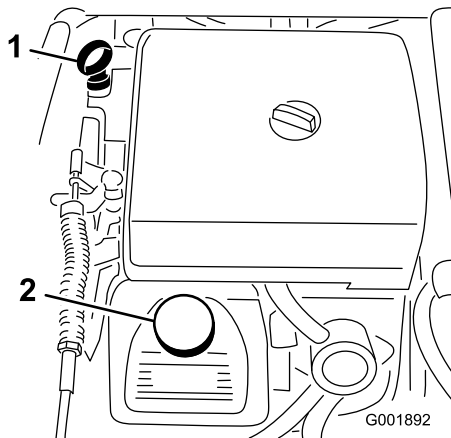

Figure 21
2. Remove the dipstick and wipe it with a clean rag (Figure 21). Insert the dipstick into the tube and make sure it is seated fully. Remove the dipstick and check the oil level.
3. If the oil level is low, remove the filler cap from the valve cover (Figure 21) and pour oil into the opening until the oil level is up to the Full mark on the dipstick; refer to Servicing Engine Oil, Engine Maintenance , page 43 , for the proper oil type and viscosity. Add the oil slowly and check the level often during this process. Do not overfill.